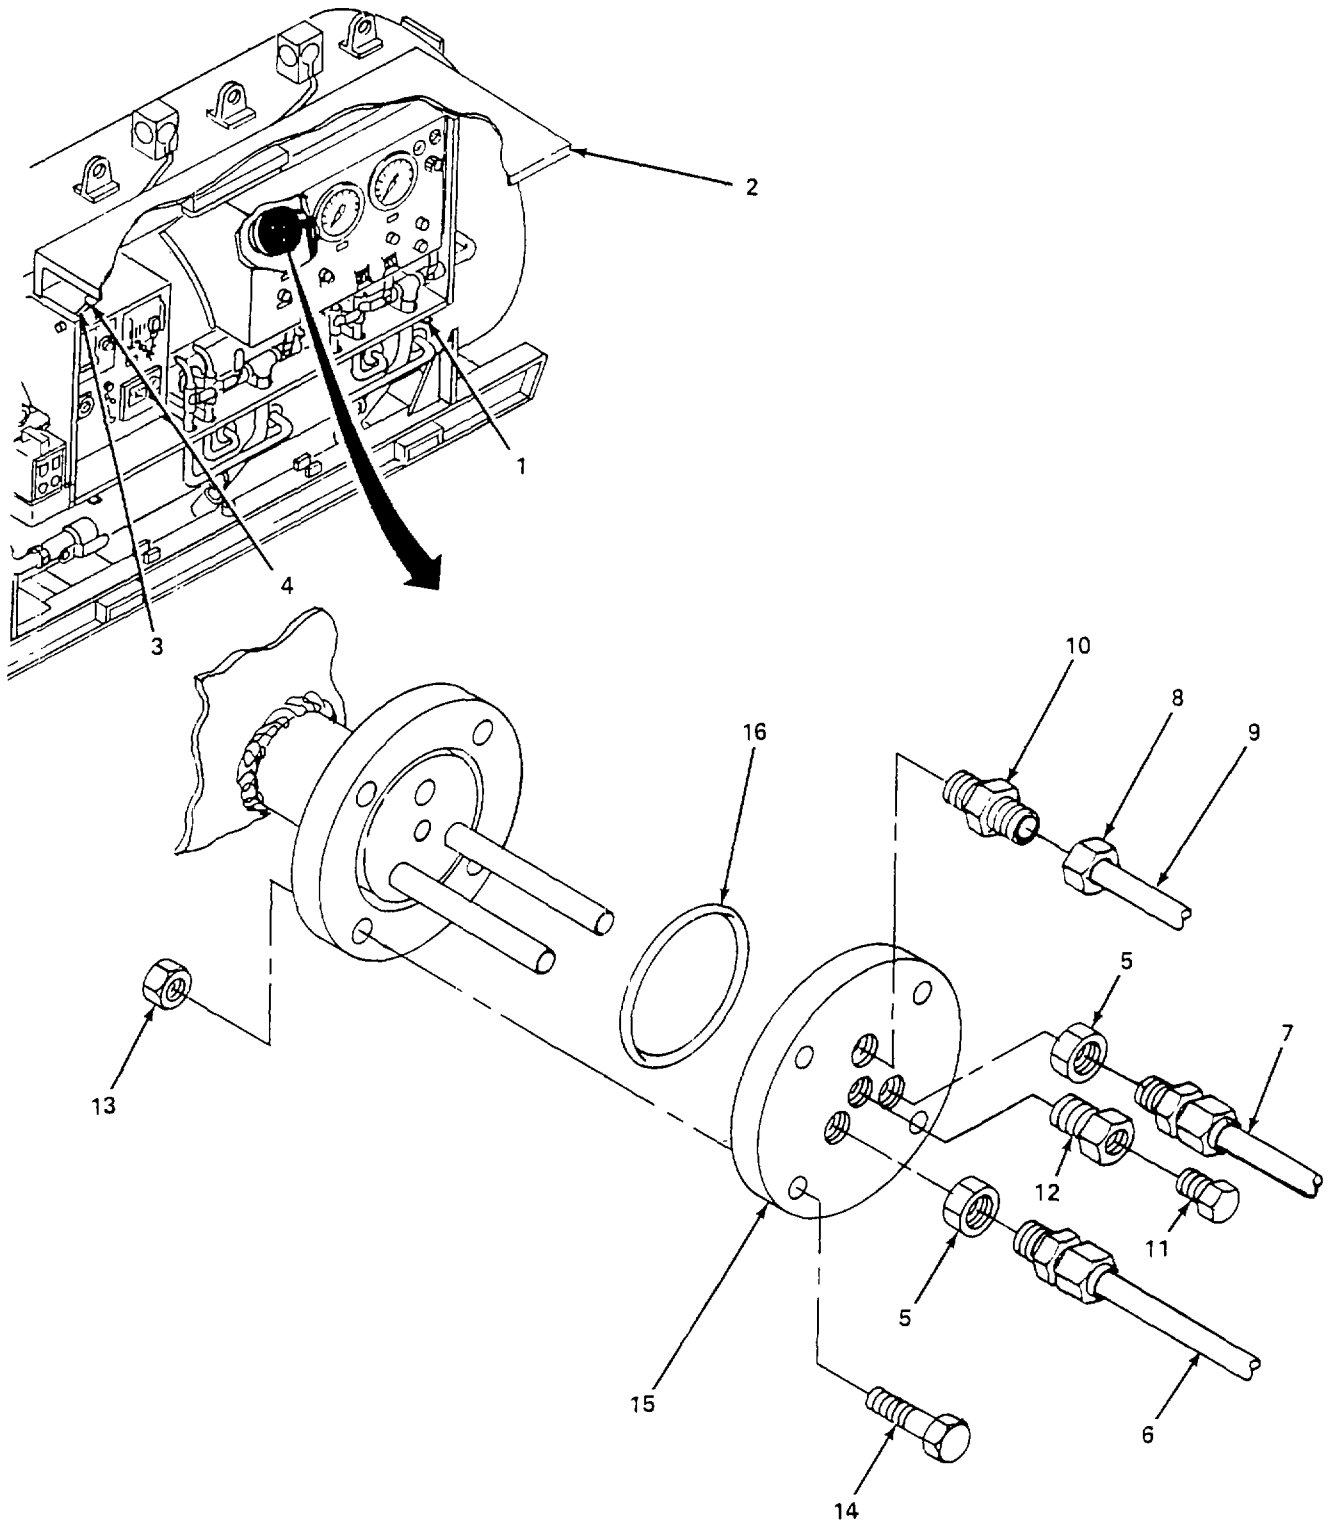

Figure 6-7. Oxygen Penetrator, Replace.
- (16) Install mounting flange (17) and secure with eight screws (16).
- (17) Install two elbows (15) on penetrator plate (11).
- (18) Install two lines (14) and tighten fitting nuts (13).
- (19) Install two fittings (12) on penetrator plate (11).
- (20) Install two fittings (10), preformed packing (9), and fitting (7) on penetrator plate (11).
- (21) Install junction box (3) and secure with self-locking nut (8).
- (22) Install conduit elbow (6) on fitting (7).
- (23) Connect wires in conduit elbow (6) and junction box (3).
- (24) Install cover (5) and secure with two screws (4).
- (25) Install cover (2) and secure with two screws (1).
b. Replace Oxygen Penetrator. (figure 6-7)
- (1) Unlatch two latches (1), open enclosure door (2), and install two supports (3) and pins (4).
- (2) Loosen two fitting nuts (5) and remove lines (6) and (7) and fitting nuts (5).
- (3) Loosen fitting nut (8) and remove line (9) and fitting (10).
- (4) Remove plug (11) from male tube connector (12).
- (5) Remove remove male tube connector (12).
- (6) Remove four nuts (13) and bolts (14) and remove flange (15) and preformed packing (16).
- (7) Install preformed packing (16) and flange (15) and secure with four bolts (14) and nuts (13).
- (8) Install male tube connector (12).